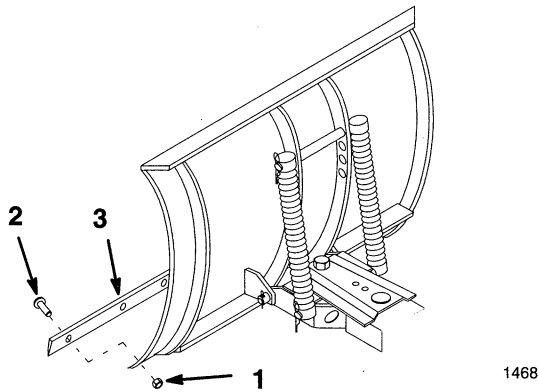

Figure 19
3. Remove lock nuts and carriage bolts to remove scraper blade (Fig. 19).
4. Reverse scraper blade to replace a worn edge and install with previously removed hardware (Fig. 19).